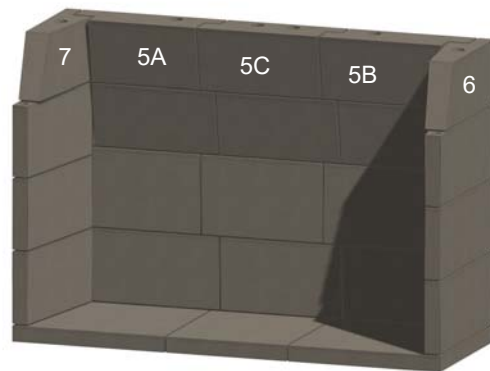

Figure 8. Upper Back Plates & Sidewalls
E. Install the slanted sidewalls (6 and 7), and the upper back plates (5A, 5B, 5C). Check the sides and the top with a level. See Figure 8.